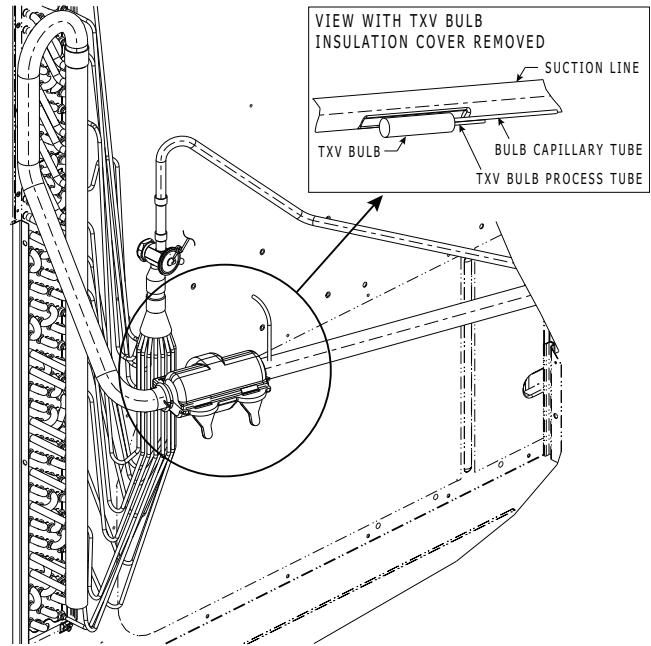

Fig. 28 — TXV Valve and Sensing Bulb Location
8. Attach TXV bulb in the same location where the original (in the sensing bulb indent) was when it was removed, using the supplied bulb clamps. (See Fig. 28 on page 20.)